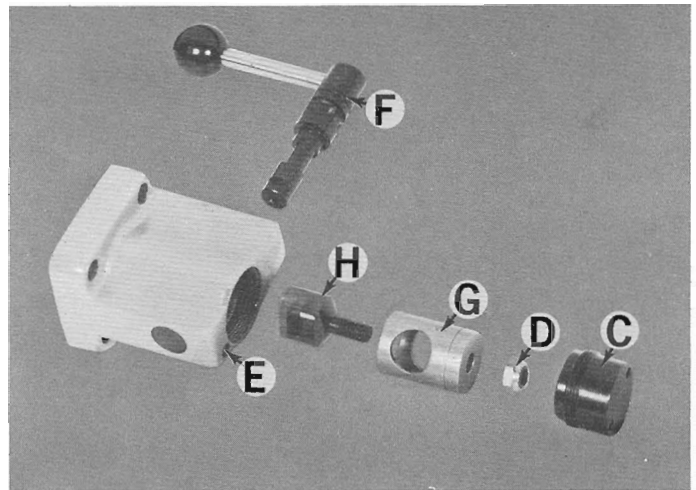

Figure 127 — Clutch Housing and Components
(B). Remove cap "C", Figure 127, and nut "D".
1. Using face spanner wrench remove threaded covers "C", Figure 127.